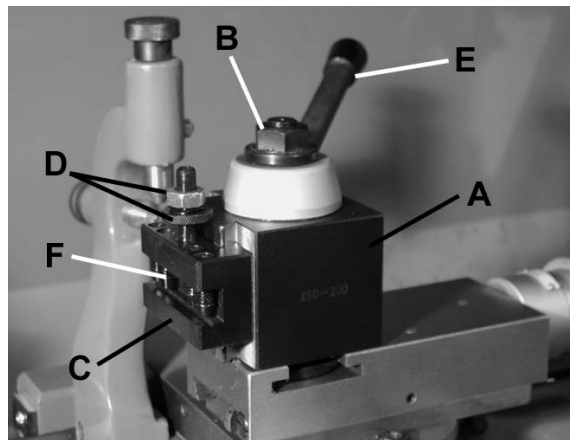

FIGURE 13
The tool post assembly (A) Fig.13 is used to lock the cutting tool into place at the desired height and angle. The tool post can pivot 360° for various cutting situations. To pivot the tool post assembly, loosen lock nut (B) and pivot tool post, retighten lock nut. The tool post comes with a tool holder (C) which can be adjusted to a desired height using the shaft and nuts mechanism (D) to raise or lower the tool holder. Once the height of the tool holder is determined, use tool post lock handle (E) to lock tool holder in place. The tool holder has 4 locking set screws (F) which lock the cutting tool in place.